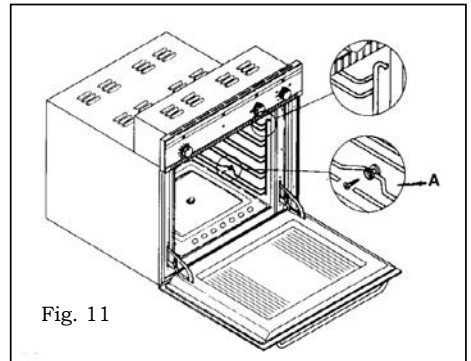

Fig. 11
**Oven accessories - Fig. 11**